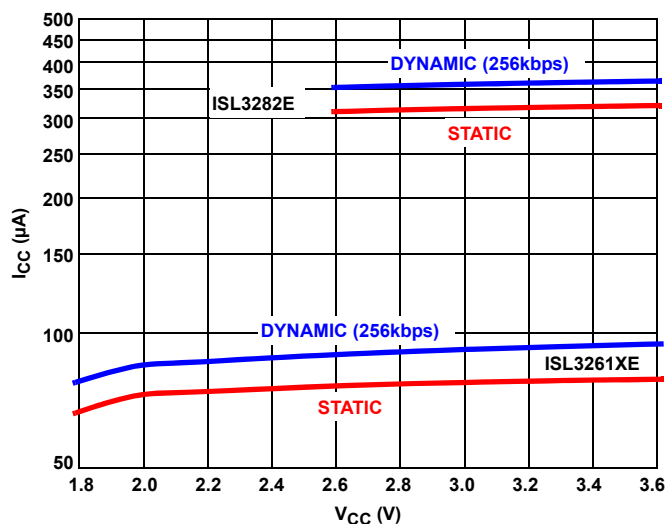

FIGURE 1. ISL3261XE REDUCES OPERATING  $I_{CC}$  BY A FACTOR OF 4 FROM PREVIOUS GENERATION RECEIVER ICs, AND OPERATES WITH SUPPLY VOLTAGES AS LOW AS 1.8V
The ISL32610E, ISL32611E, ISL32612E are ±16.5kV IEC61000 ESD protected, fractional unit load (UL), 1.8V powered, single differential receivers (Rx) for balanced data communication using the RS-485 and RS-422 standards. With their 85µA supply currents, the receivers are optimized for low power applications, and deliver the lowest supply currents of any available single Rx IC (see Figure 1).